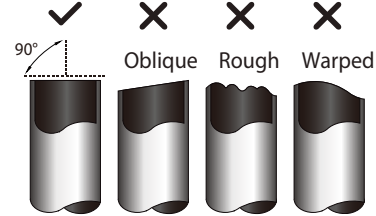

Fig. 18 — Pipe Cutting
- a. Cut the pipe, with a pipe cutter, at 90 degrees (see Fig. 18).